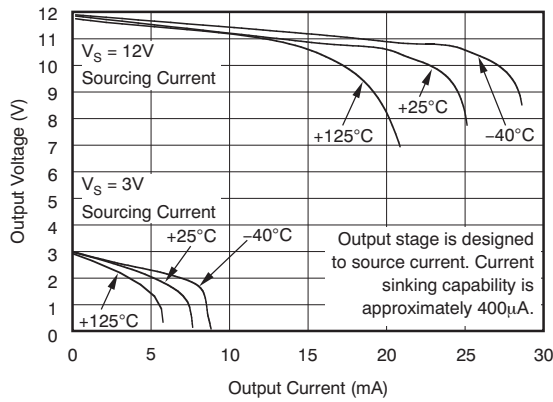

Figure 7. Positive Output Voltage Swing vs Output Current
(1) Total output error includes effects of gain error and  $V_{OS}$ .
(2) For details on this region of operation, see the Accuracy Variations as a Result of  \$V\_{SENSE}\$  and Common-Mode Voltage section.
(3) See Typical Characteristic curve Output Swing vs Output Current, Figure 7.
(4) Specified by design.